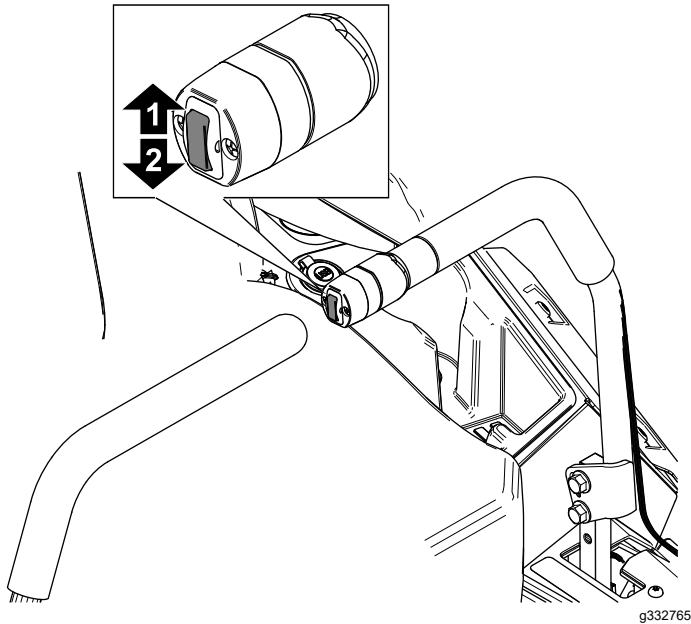

Figure 32
1. Push up on the deck-lift switch (Figure 32).